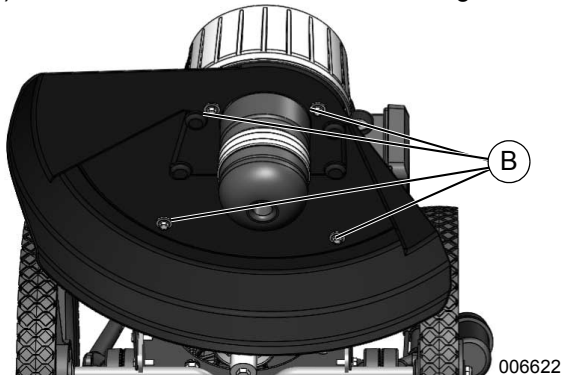

Figure 4-11. Trimmer Guard
2. See Figure 4-11. Remove trimmer cords from head assembly.
3. Remove four trimmer guard bolts and flat washers (B) with a 3/8" wrench. Remove trimmer guard.
4. See Figure 4-11. Move idler arm (C) away from belt (D) and lift belt off idler pulley (E).